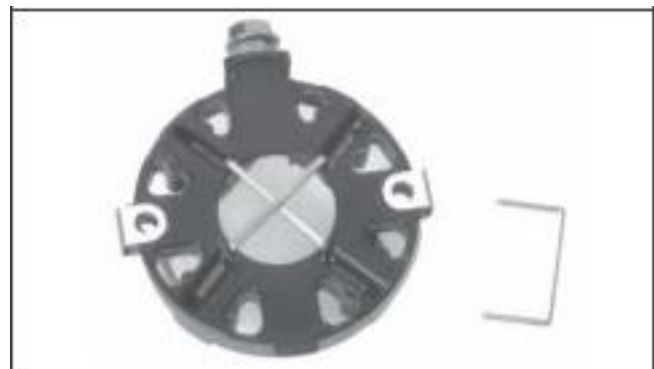

Figure 8-18. Style "B" Commutator End Cap with Brushes.
4. If the brush assembly is not being replaced, position the brushes in their pockets in the carrier, move them to the retracted position, and install carton staples to retain them. See Figure 8-18.